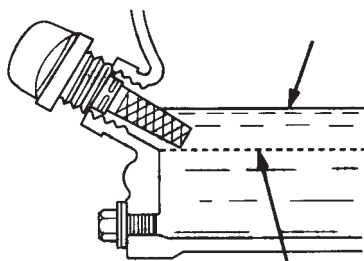

Figure 6. Engine Oil Dipstick (Oil Level)
4. If the engine oil level is low (Figure 6), fill to the edge of the oil filler hole with the recommended oil type (Table 6). See Table 2 for the oil capacity of your type engine.